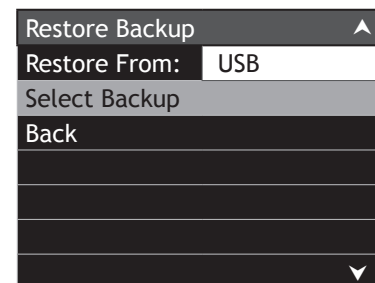

Figure 95
7. Change the “Restore Backup” option from “STORAGE” to “USB” by using the ►(Right) Push-button and Down▼ Push-button. Refer to figure 95.